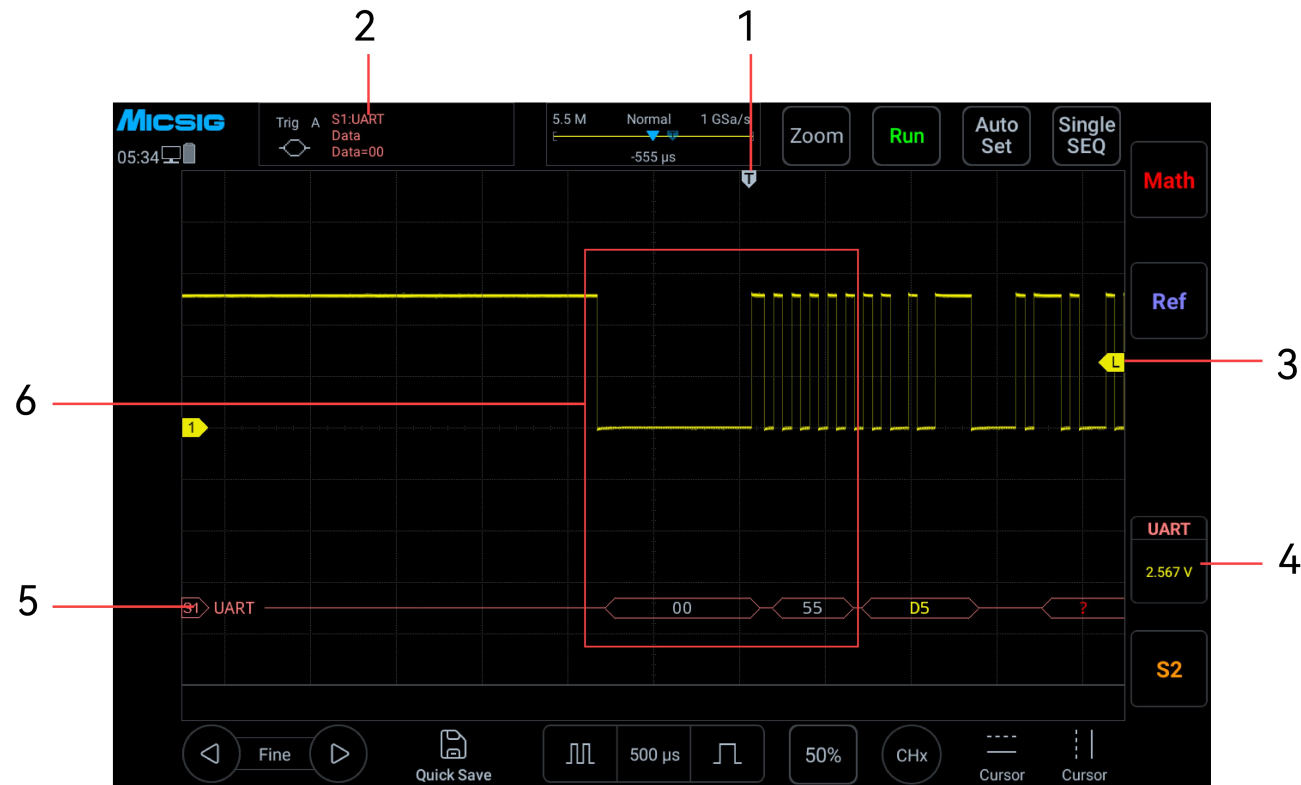

Figure 14-8 UART Graphic Interface
- (1) Tap S1 to open the decode channel, and click S1 again to open the bus configuration menu;
- (2) Select the bus type as “UART”, click “Ch1”, “Idle High”, “Parity None”, “8bit”, “19.20kb/s”, display “hexadecimal”, then close menu;
- (3) Open the trigger mode settings menu, select "Data", set the condition to "=", manually enter the data content as 98, and press the "enter" key to confirm.
- (4) Adjusting the threshold level according to the amplitude level of signal may make the signal to be stably triggered. The UART trigger graphic interface is shown in Figure 14-8: